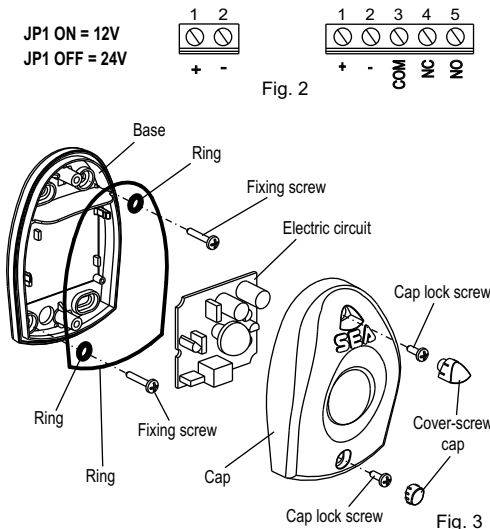

Fig. 3
- Fix the unit as shown in figure 3.